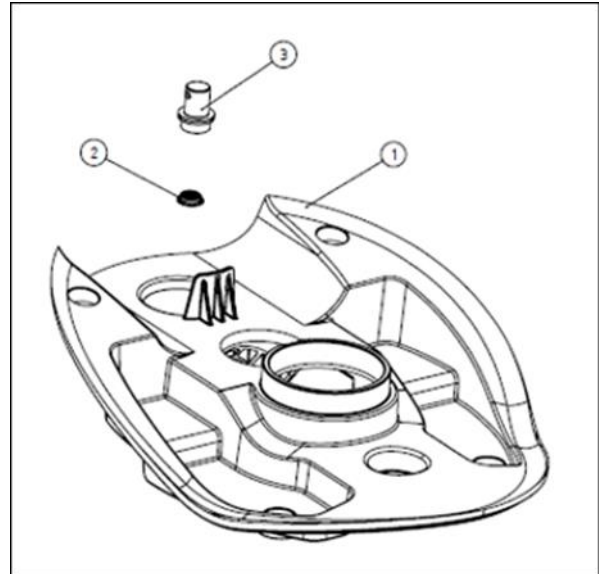

Figure 25
1. Locate the loader assembly top cover (Figure 25, part 1) under the solution tank.
2. Remove the valve, (Figure 25, part 3) by turning it counter-clockwise.
3. Remove the particle filter (Figure 25, part 2) and run it under warm water to clean it out. You may use a soft brush if it is heavily clogged.